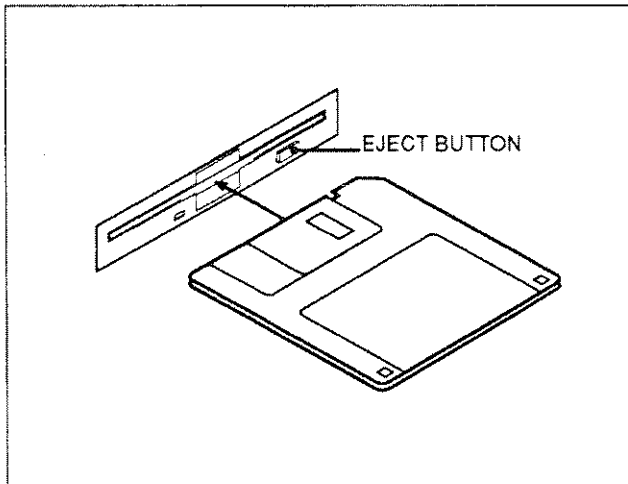

Figure 3-18. Inserting a floppy disk.
2. Insert the disk with the label side up (see Figure 3-18), pushing it in firmly until it clicks into place.